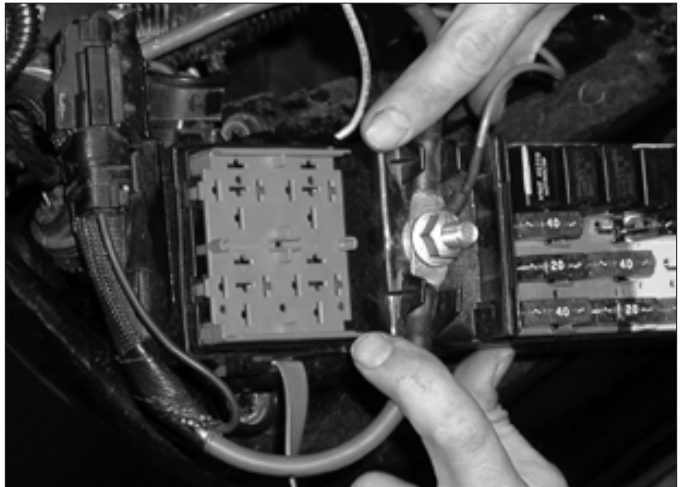

Fig. 11-7
- O. Remove the plugs, and remove the red plastic relay port by pressing on the tabs in the corners. (See Fig. 11-7.)